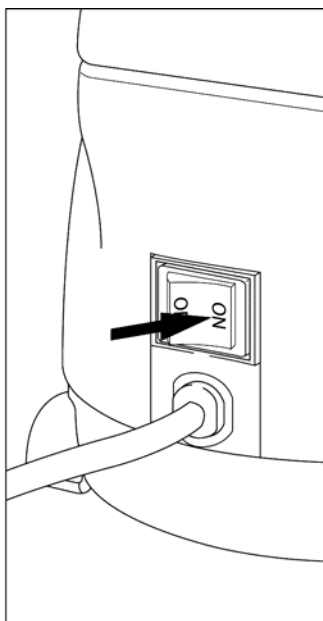

FIGURE 13
3. Switch Lighted On/Off Switch to “On” position (FIGURE 13).